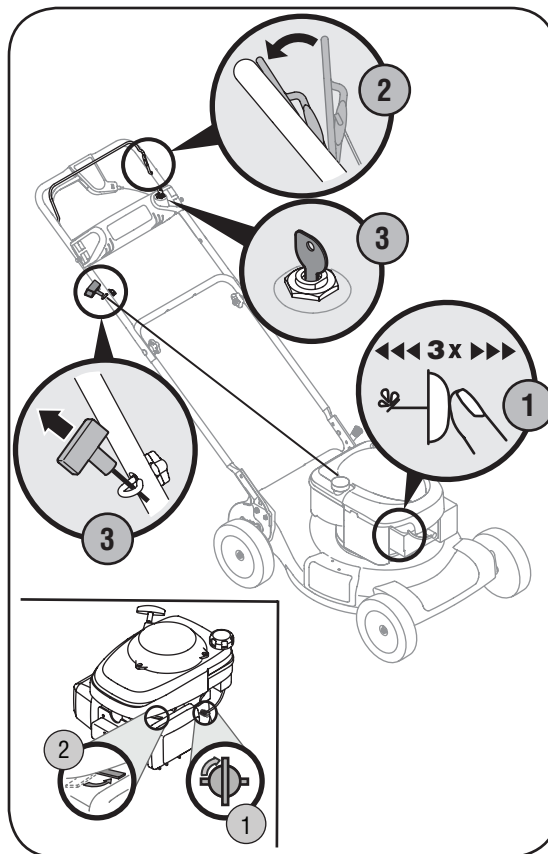

Figure 4-2: Starting the mower.
1. Push primer (if equipped) three times. Wait about two seconds between each push. See Figure 4-2. In temperature around 55°F or below, prime five times. Do not prime to restart a warm engine.
2. Standing behind the mower, squeeze the blade control against upper handle. See Figure 4-2.
3. **Recoil Start:** Grasp recoil starter handle and pull rope out with a rapid, continuous, full arm stroke. See Figure 4-2. Keeping a firm grip on the starter handle, let the rope rewind slowly. Repeat until engine cranks. Let the rope rewind each time slowly.
Electric Start (If Equipped): Turn ignition key to the right to start the engine. See Figure 4-2. Release the key after the engine starts.
2. Move the choke lever (If equipped) all the way backward into the choke position. See Figure 4-2 inset.
3. Standing behind the mower, squeeze the blade control against upper handle as shown in Figure 4-2. The choke will now begin to slowly return to the off choke position after activating the blade control. Therefore, quickly move onto step four below.